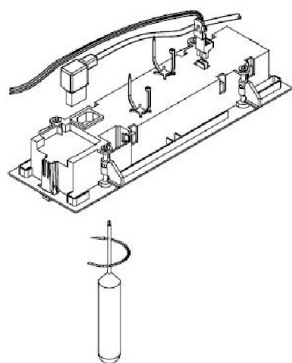

Figure 1: Tight cam lock screw using Philips screwdriver
3. Please note circuit supplying mains power to the fitting must not be energised until installation of the fitting is completed. Take out the cut-out template (348mm x 97mm) from the packing box; use a pencil to mark the cut-out position on the ceiling. Once the ceiling cut-out is done, remove the face plate, recess the base assembly through the ceiling cut-out (if access to the ceiling cavity is not available, connect the mains power cord and nexus data cable, secure with the cable ties supplied, before recessing the base in the ceiling cut-out). The Nexus yellow data cable is only connected for the Nexus unit (part number PLRNXSLED/ PLRNXSLEDP). Once recessed in the cut-out, tighten the cam lock screws using suitable size Philips screwdriver or a power driven screwdriver set at minimum torque, turning clockwise (refer figure 1), to secure the product to the ceiling. Connect the mains power cord and Nexus data cable if not connected earlier and secure with the cable ties supplied.